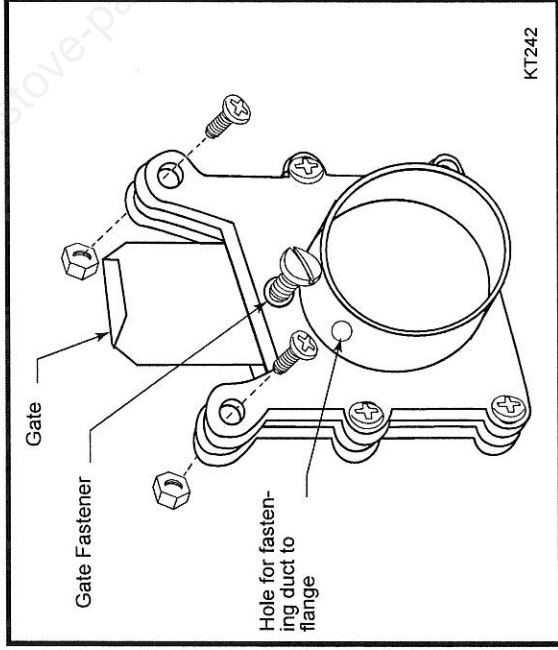

Fig. 11 Preparing the adapter. Remove only one top bolt and nut.
1. Make sure the top tab on the gate and the fastener for the gate are on the same side of the adapter assembly. (Fig. 11) Turn the gate fastener clockwise to fasten the gate in the open position.
2. Remove one top nut and bolt from the adapter, according to whether there is a fan attached to the heater. (Fig. 11)